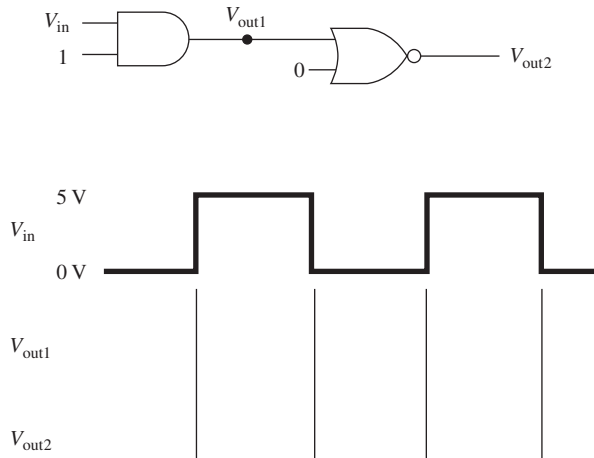

Figure P9
9. The propagation delay times for a 74LS08 AND gate (Figure P9) are $t_{PLH} = 15 \text{ ns}$, $t_{PHL} = 20 \text{ ns}$, and for a 7402 NOR gate, they are $t_{PLH} = 22 \text{ ns}$, $t_{PHL} = 15 \text{ ns}$. Sketch V_{out1} and V_{out2} showing the effects of propagation delay. (Assume 0 ns for the rise and fall times.)